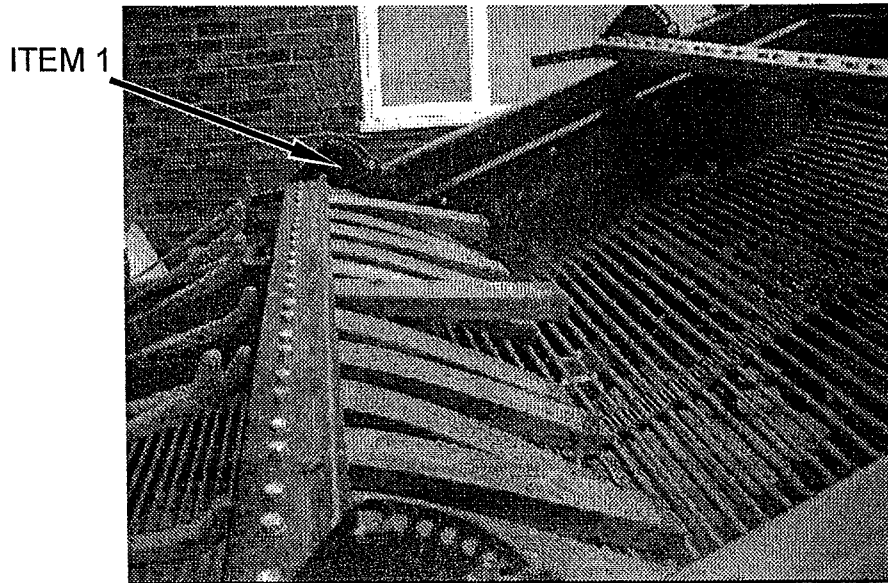

Fig 10.2
The clod block assembly is positioned above the main web and is there to help break down and help the sieving action of the soil through the web. The blocks are made from resilient rubber (Fig 10.2). Up to two units can be mounted above the web.
The angle of the blocks to the web is adjustable at item 1 Fig 10.2. By adjusting the angle more or less pressure can be exerted onto the soil. Care must be taken over how much pressure is put on as damage to the crop may occur.